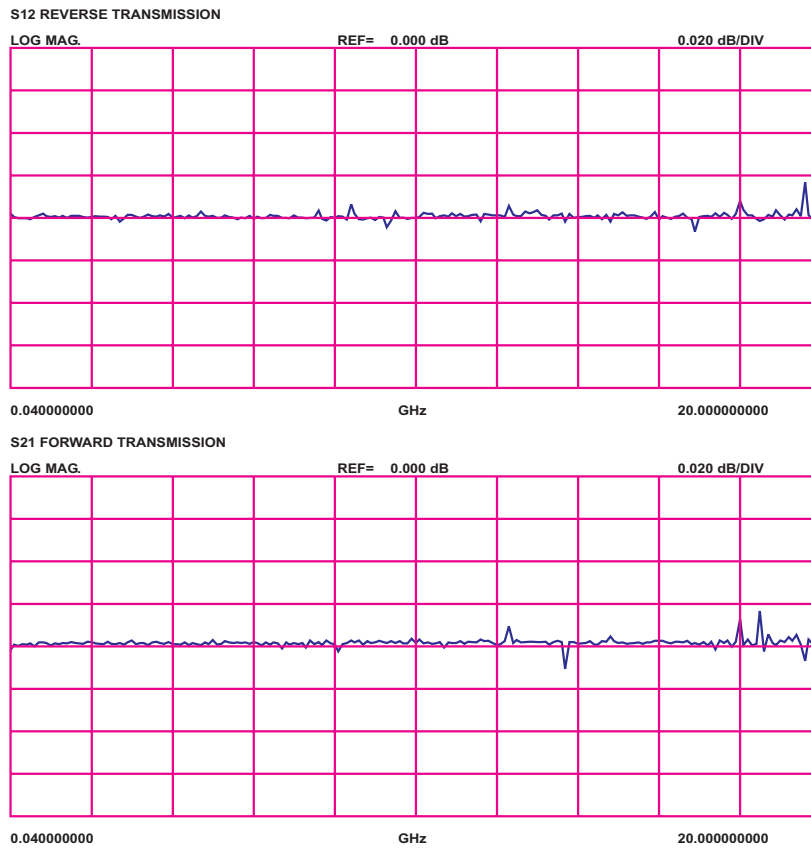

Figure 12-2. High Level Noise Test Waveform
- Step 10.** Verify that the peak-to-peak High Level Noise falls within the area between the two limit lines (Figure 12-2).